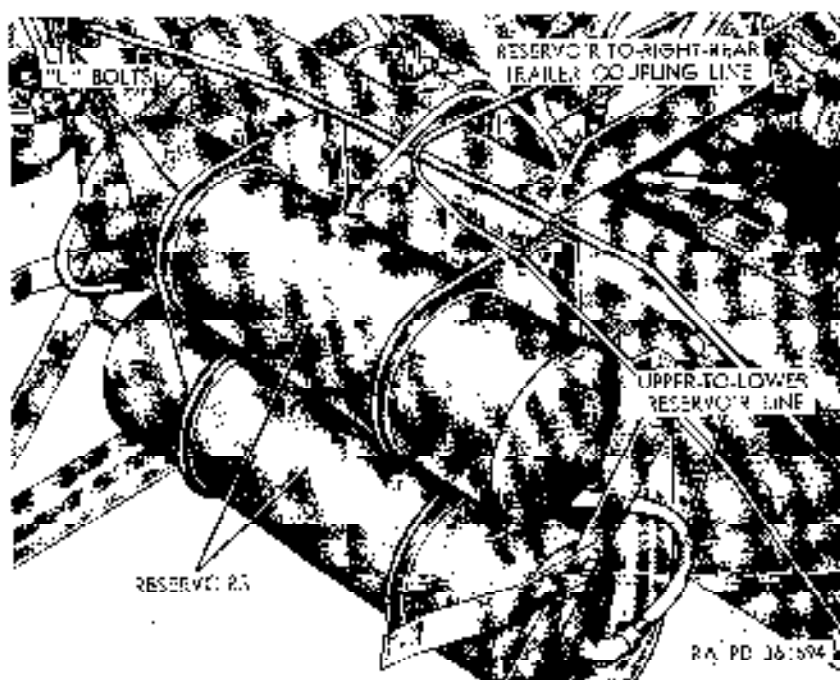

Figure 233. Air reservoirs installed on outside of front left side rail.
a. *Drainage.* To drain air reservoirs (fig. 233), open drain cock on underside of lower air reservoir. When all water has drained from reservoir, close drain cock.
- (1) *Consultation with ordnance maintenance unit.* Refer to paragraph 2.
- (2) *Removal.*
- (a) Open drain cock on underside of lower air reservoir (fig. 233) to relieve pressure in compressed air system.